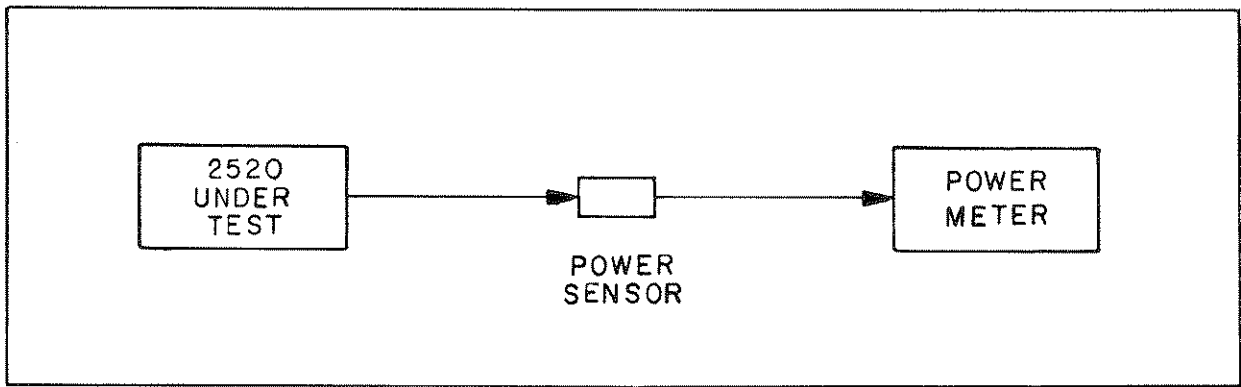

Figure 6-105. Reference Measurements
6. Verification of -10 dBm through -50 dBm: Connect the 2520 to the power meter as shown in Figure 6-105, with no attenuator. Turn off the 2520 output and let the sensor settle for 20 seconds. Then zero the power meter per the manufacturer's instructions.